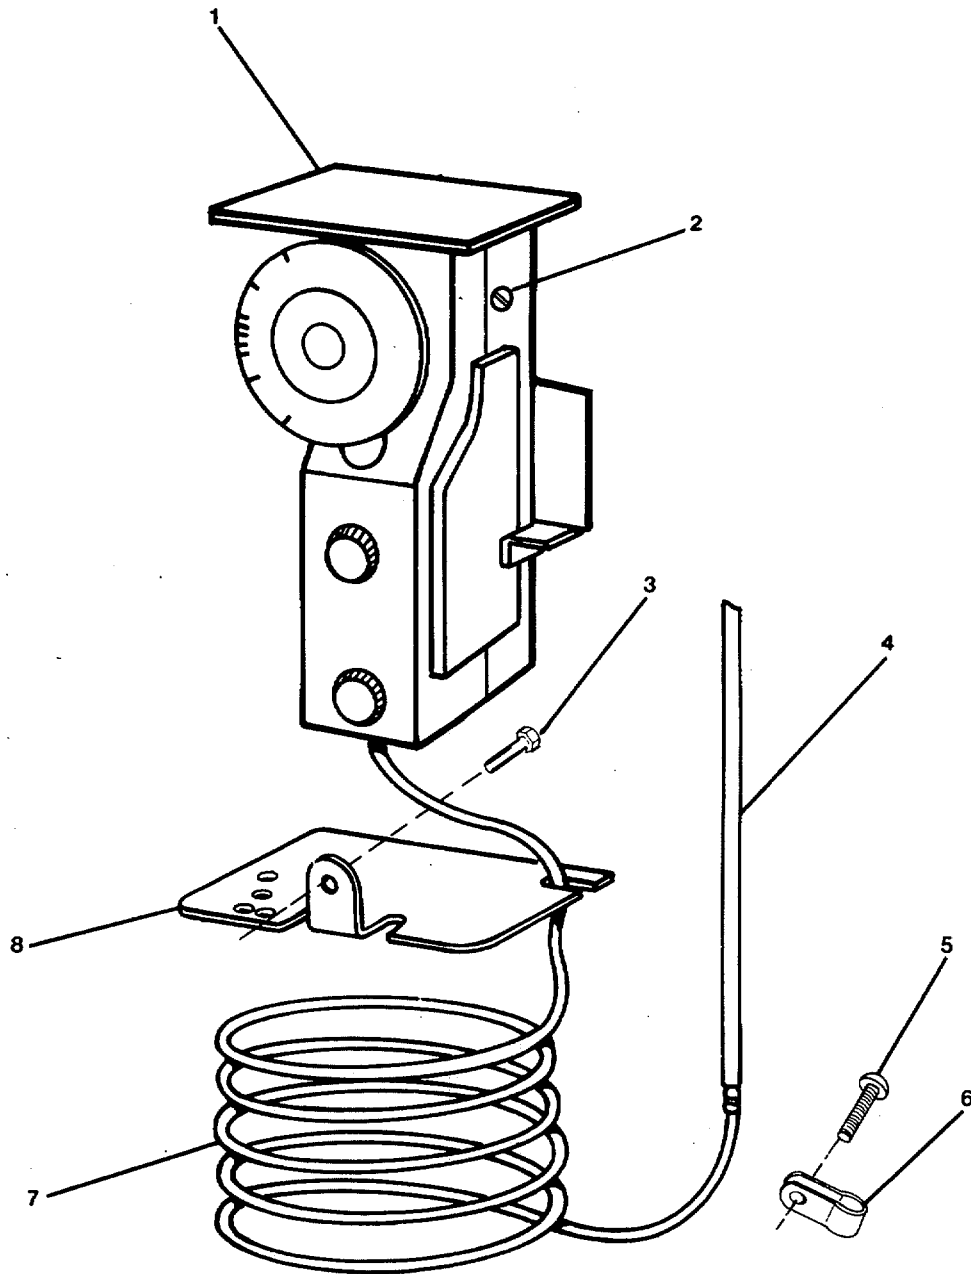

Figure 4-5. Cooling Thermostat.
- (8) Connect compressor crankcase connection (7).
- (9) Connect oil pressure line connection (2).
- (10) Coil excess tubing (1) and (6), but allow a small amount of slack to reduce noise.
- (11) Replace cover (5) with screw (8).
- (12) Open service valves and receiver outlet valve to allow refrigerant back into system.
- (13) Restore electrical power and run air conditioner. Check for proper operation. Check refrigerant sight glass and add R-22 refrigerant as required (Item 6, Table 4-1).
- (14) Remove "Out of Service" tag from circuit.
- b. Replace cooling thermostat (1, FIGURE 4-5) as follows:
- (1) Tag and disconnect electrical wiring to cooling thermostat.
- (2) Remove screw (5) from clip (6) to disconnect bulb (4).
- (3) Remove screw (3) and remove bracket (8).
- (4) Remove two mounting screws (2) and remove cooling thermostat (1) with capillary (7) and bulb (4) attached.